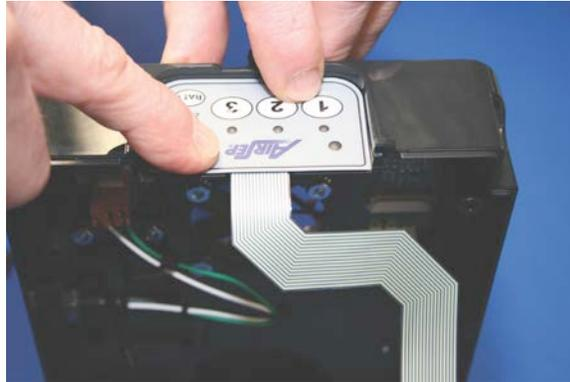

Figure 5.42
8. Carefully align control/keypad to enclosure recessed control panel area, and press keypad evenly to ensure all adhesive is in contact with plastic surface. (Figure 5.42)